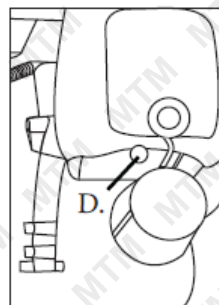

Fig.10
2. Pump the primer bulb 10x by pressing up on the bulb (D) (Fig. 10).